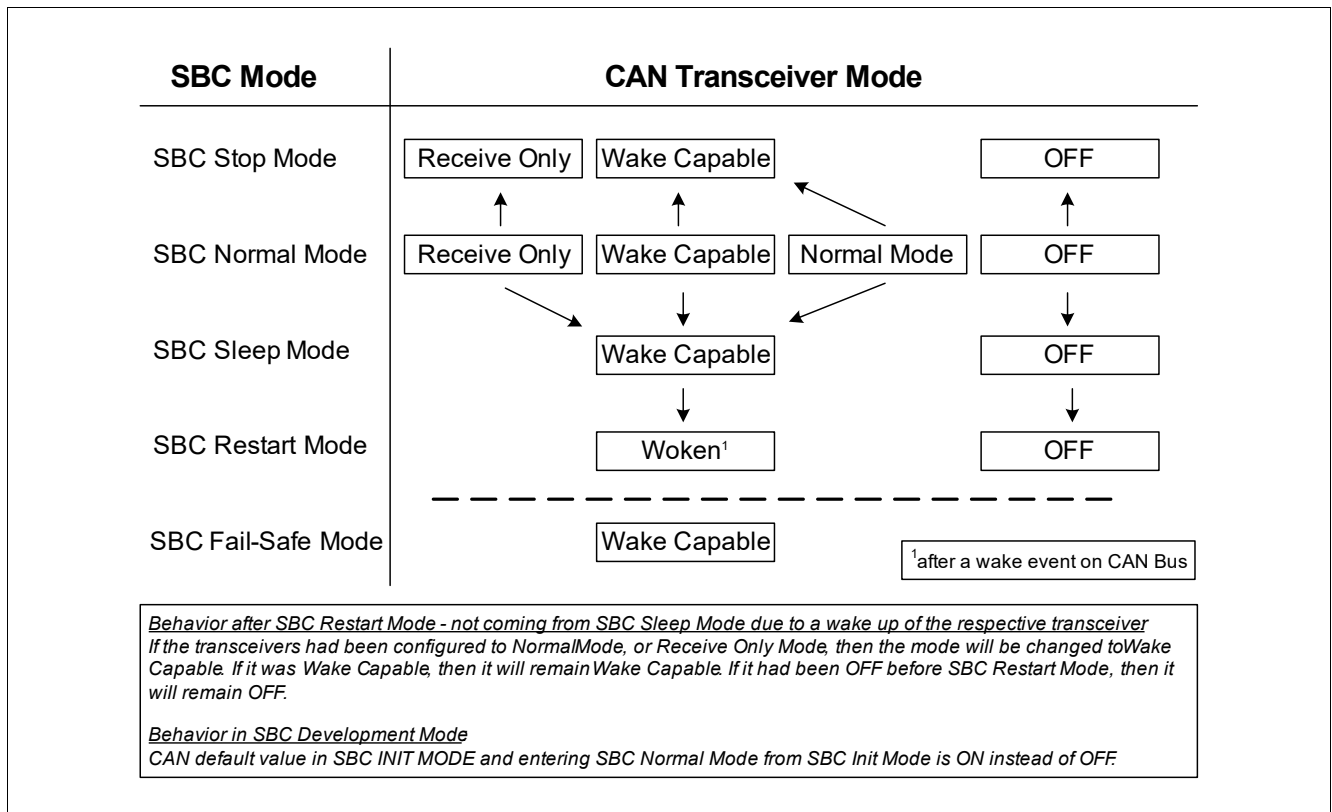

Figure 18 CAN Mode Control Diagram
**Figure 18** shows the possible transceiver mode transitions when changing the SBC mode.